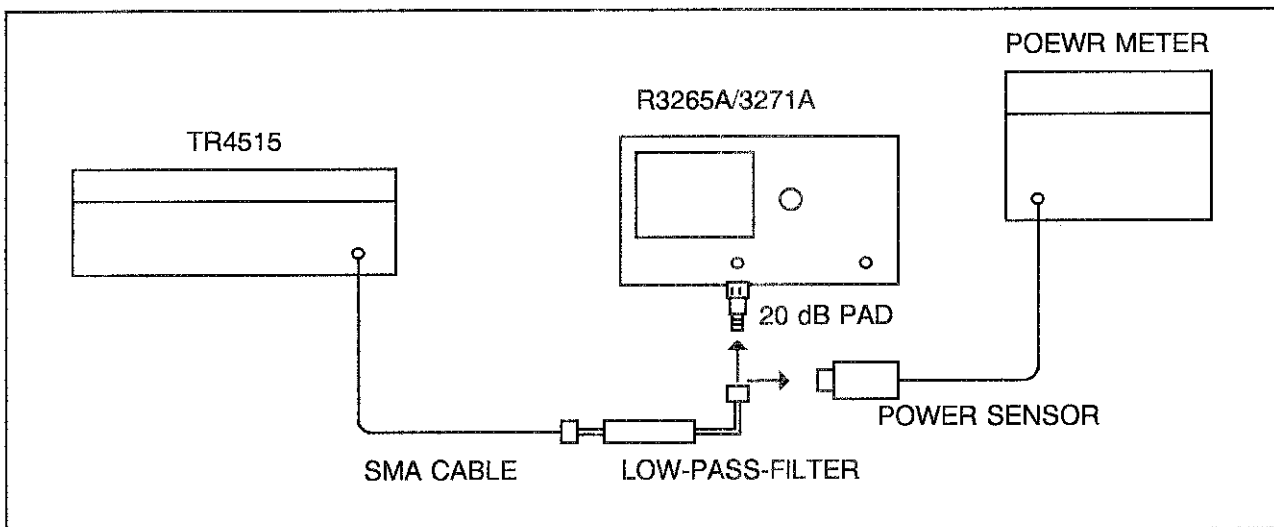

Figure 5-18 Frequency Response Adjustment (2) Setup
- (1) Zero and calibrate the power meter. Rotate and adjust the CAL FACTOR control to set the 421MHz calibration factor of the power sensor.
- (2) Connect the equipment as illustrated in Figure 5-18. However, connect the low-pass filter output to the power sensor.
- (3) Press the **PRESET** key of the TR4515, and set the controls as follows: